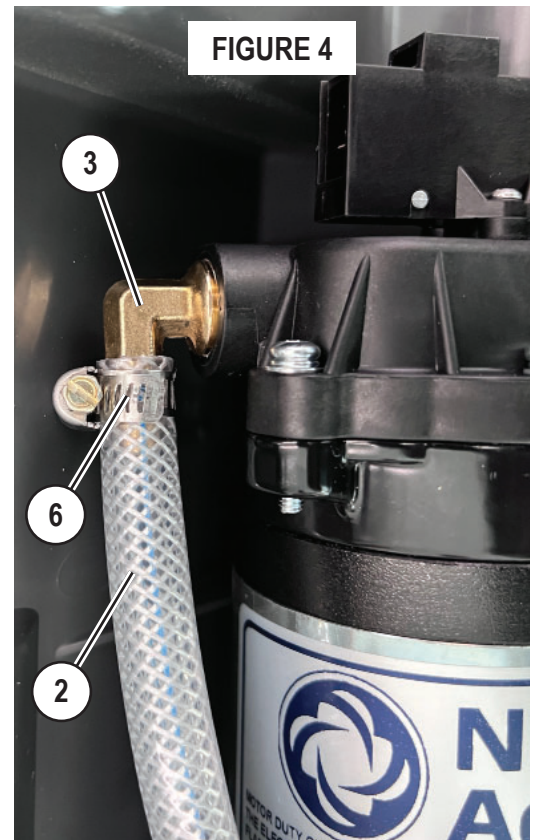

FIGURE 4
10. See Figure 4. Test fit the new brass Fitting (3) into the solution pump then remove.
11. Apply Loctite "No More Leaks" 1537780 to the threads of Fitting (3) and install into solution pump outlet. Orientate fitting as shown and allow to cure for 72 hours.